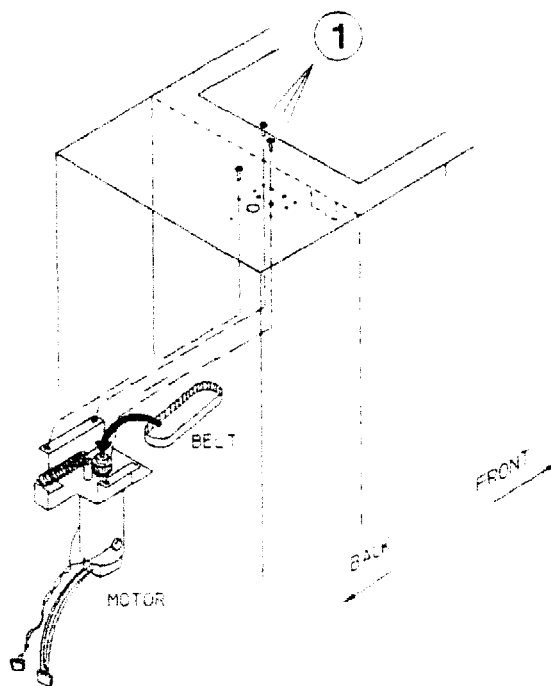

Figure 8-36. Removing the Carriage Motor
Refer to Figure 8-36.
1. Loosen the screws holding the Carriage Motor (Figure 8-36,(1)).